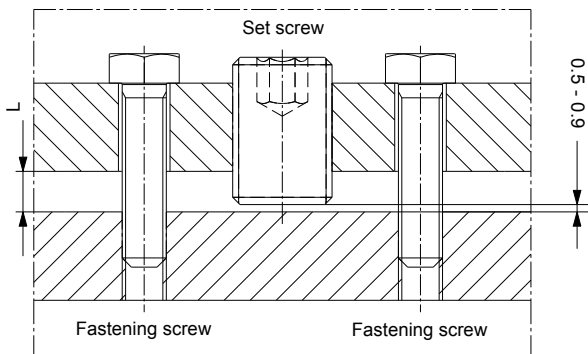

Fig. 17 Impeller clearance adjustment
3. Slacken the set screws and draw back the suction cover by between 0.5 and 0.9 mm using the six fastening screws (approx. one 270 ° turn of an M12 fastening screw) and the distance "L" as reference. See fig. 17.